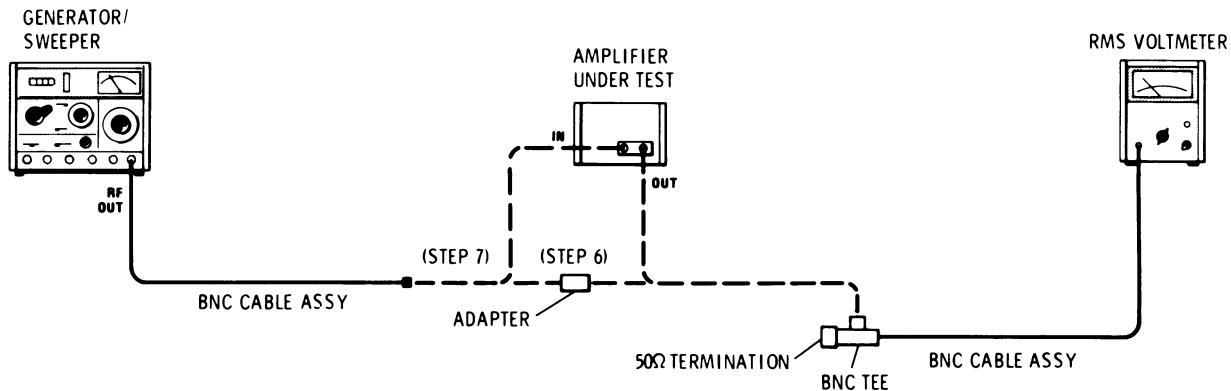

Figure 4. Flatness and Mean Gain Test Setup: 100 kHz to 10 MHz
6. Disconnect the sweep oscillator and the power meter from the amplifier. Connect the equipment as shown in Figure 4. Set the generator/sweeper for a 10 MHz, CW signal; set the signal level for  $-40$  dB (read on the voltmeter).